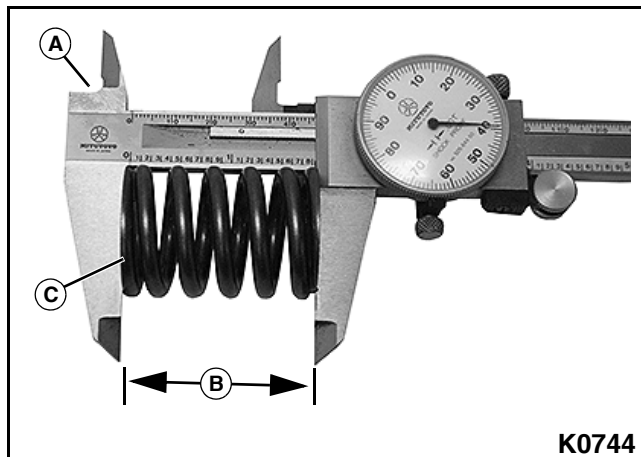

Figure 3-146
1. Using a caliper (A), measure the free length (B) of the valve spring (C). The free length should be within specification. **See Figure 3-146.**